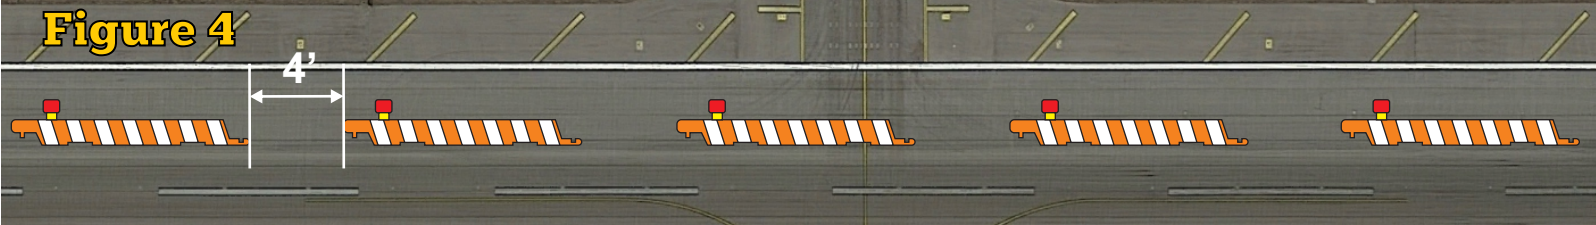

Figure 5
- 3. Barricade at a taxiway/taxiway intersection will have “A” Frames set up at the TOFA (15’ spacing) with a low profile barricade between them. (Fig. 5)